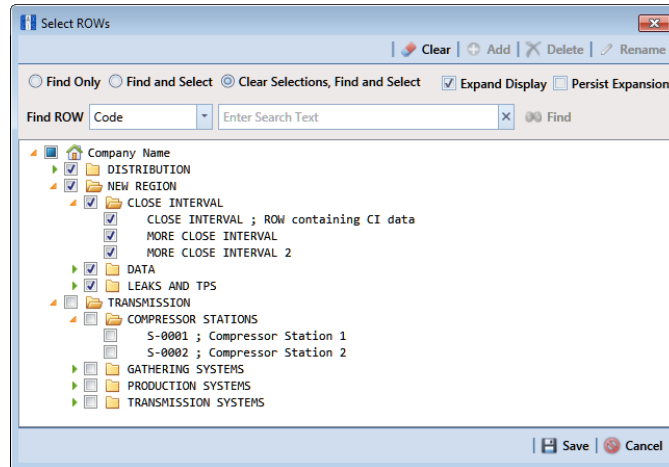

Figure 8-49. Select ROWs
- 1 Select one or more pipeline segments in the *Select ROWs* window (Figure 8-49). Click  **Save** to close the window.